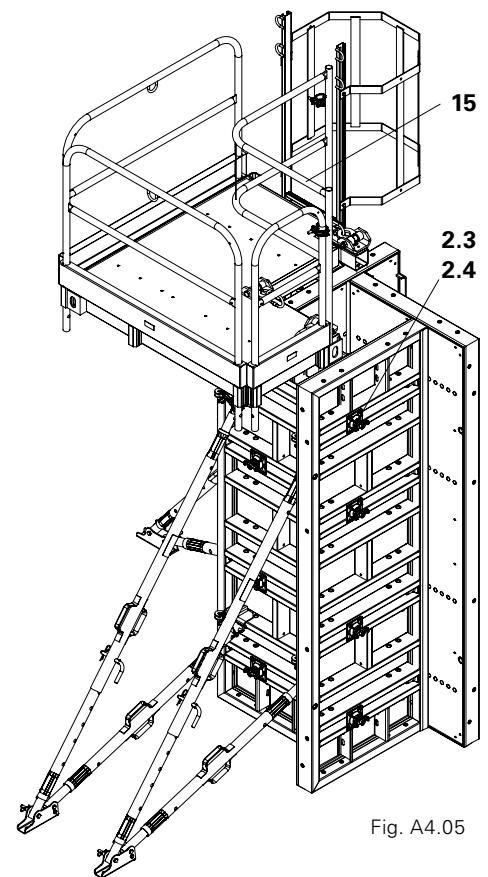

Fig. A4.05
1. Screw TRS Clamp (2.4) into the TRS Inserting Nut (2.3) from the outside and tighten, see A3 Formwork halves. (Fig. A4.05 + A4.05a)